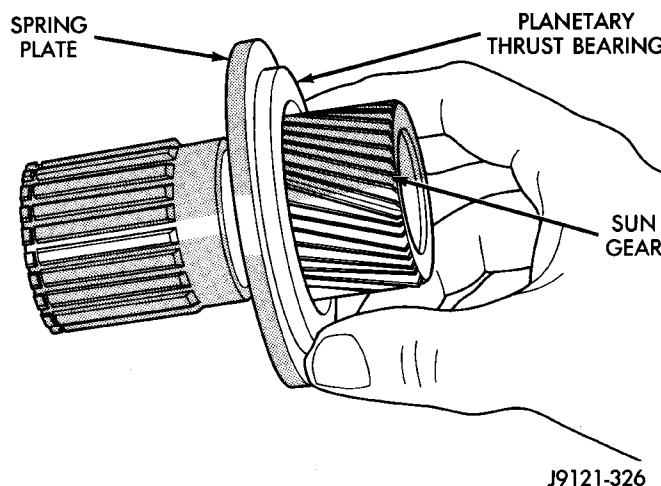

Fig. 221 Planetary Thrust Bearing Installation
(12) Coat planetary thrust bearing and bearing contact surface of spring plate with generous amount of petroleum jelly. This will help hold bearing in place during installation.
(13) Install planetary thrust bearing on sun gear (Fig. 221). Slide bearing onto gear and seat it against